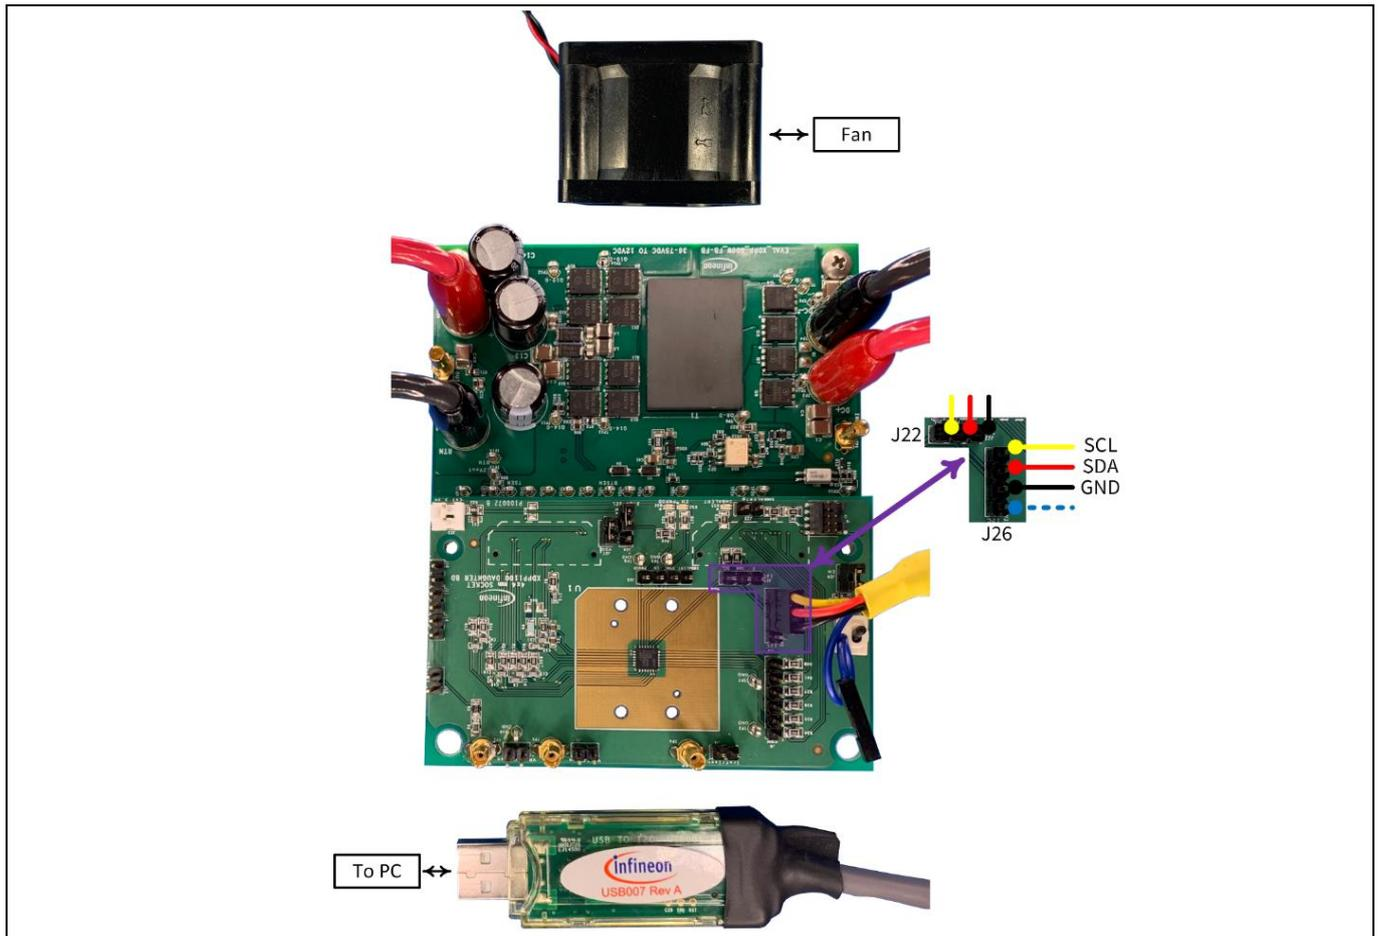

Figure 4 Evaluation test set-up
Figure 4 shows the XDPP1100 evaluation kit set up while the XDPP1100 daughterboard is mounted on top of the power converter board.
The dongle can be connected to either J22 (no pin for blue wire) or J26 (has pin for blue wire), as shown in **Figure 4**.
- 1) Set up the evaluation kit as shown in Figure 4.
- 3) Plug the USB dongle into the PC and the J26 header of the daughterboard (**Figure 4**).
- 1) Place a fan with a minimum of 400 LFM airflow next to the power board while airflow blows over the top and the bottom of the power board where the FETs are populated. For example, supplying the recommended fan (04028DA-12R-AU-F0) with 7.5 V DC and placing it at a distance of 1 to 2 cm to the bottom side of the power board will meet the cooling criteria (Figure 4).